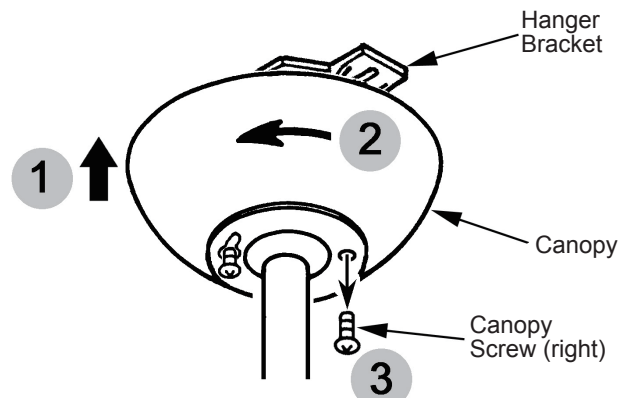

Figure 5.11
Step 11. Slide the Canopy over the Hanger Bracket and align the larger screw hole over the left Canopy Screw. Give the Canopy a slight twist to the left, which should align the right Canopy Screw hole. Insert and secure the right Canopy Screw, then secure the left Canopy Screw. (Fig. 5.11)